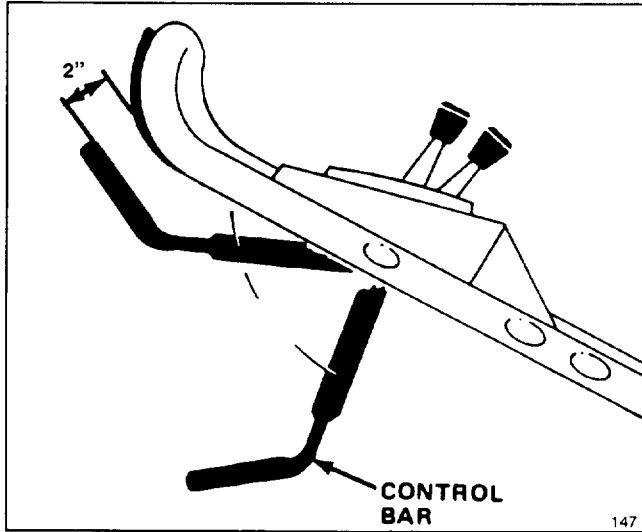

Figure 11
2. Push the control bar down to the lowest position (Fig. 11). This "latches" the BBC mechanism prior to engaging the blade.
6. Push the control bar down to its lowest position, latching the BBC mechanism (Fig. 11).
7. Slowly lift the control bar to a point where the bag just begins to inflate (about 5" below the handle) (Fig. 11). This indicates that the mower blade is engaged and has begun to rotate.